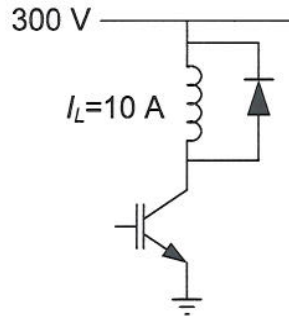

Figure 2 IGBT switching an inductive load
2. Consider the circuit of Figure 2 which is an IGBT switching an inductive load: